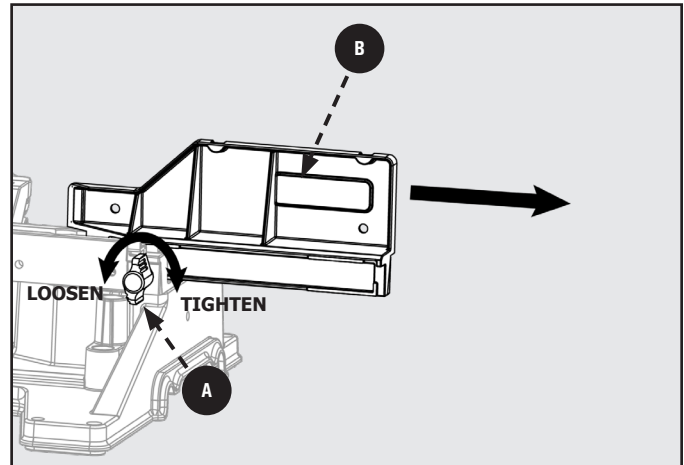

Figure 38
1. Loosen the fence lock knob **(A)**. Slide the upper (adjustable) fence completely out of its track and set to the side. See Figure 38. (Both upper fences need to be removed).